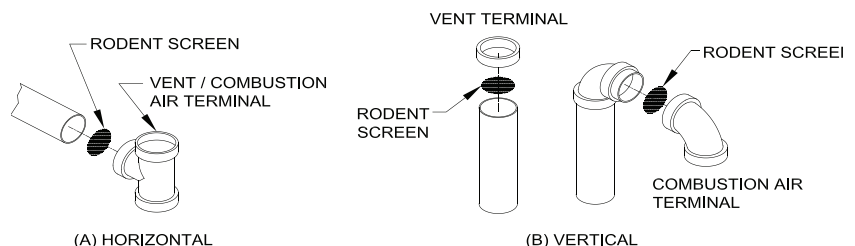

Figure 13: Rodent Screen Installation
- Install rodent screen and vent terminal (supplied with boiler). See Figure 13 for appropriate configuration details.
- Install rodent screen and combustion air terminal (supplied with boiler). See Figure 13 for appropriate configuration details.
- Install rodent screen and vent terminal (supplied with boiler), see Figure 13 for appropriate configuration.
- Install rodent screen and combustion air terminal (supplied with boiler). See Figure 13 for appropriate configuration.
- Install rodent screen and vent terminal (supplied with boiler). See Figure 13 for appropriate configuration.